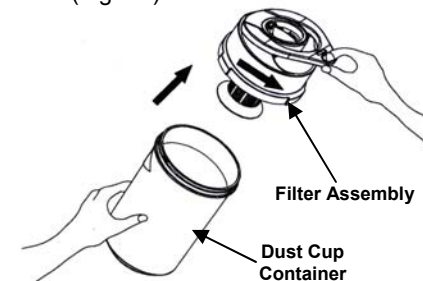

Fig. 12
1. To remove the filter assembly from the dust cup, hold the dust cup container in one hand and with the other hand, turn counter clockwise and pull out the filter assembly. (Fig. 12)